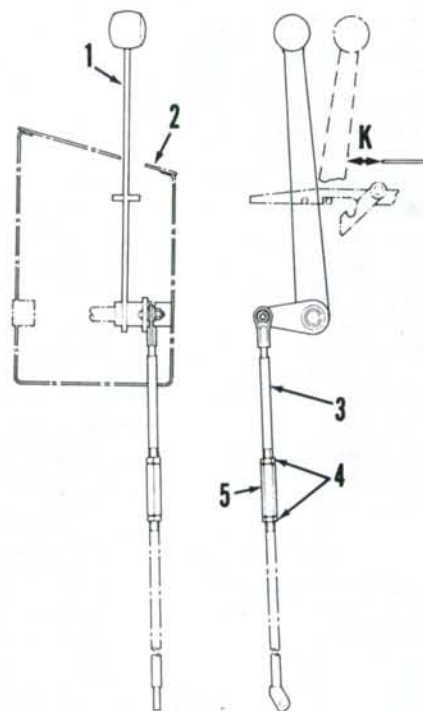

Fig. 255—With quadrant control lever moved rearward to full lift position, distance (K) between lever and end of quadrant slot should be 36 mm (1-7/16 inches).
320. LIFT LINKAGE CONTROL LEVER ADJUSTMENT. Move control lever rearward to full lift position. Distance (K—Fig. 255) between rear edge of control lever (1) and end of quadrant slot should be 36 mm (1⁷/₁₆ inches). To adjust, loosen locknuts (4) and turn control rod adjuster (5) as necessary.